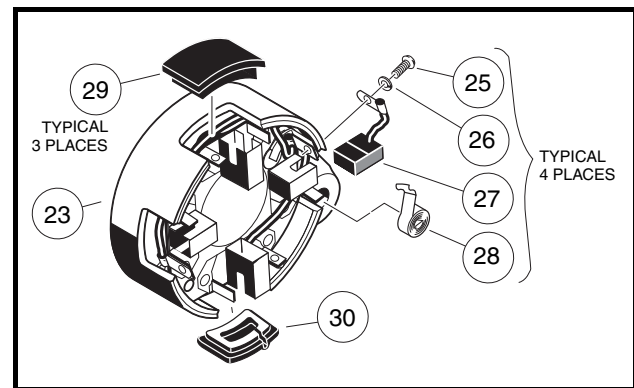
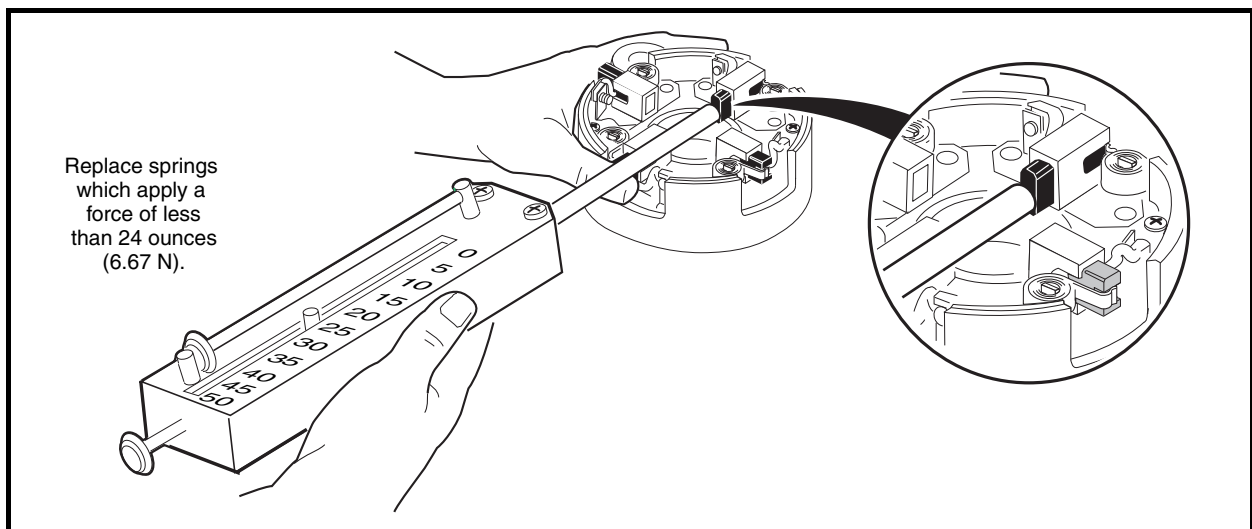

Figure 12-3 Brush Covers and Brushes
Figure 12-5 Brush Spring Tension Test
2. Remove brush covers (29 and 30), screws (25), lockwashers (26), brush springs (28) and brushes (27) (Figure 12-3, Page 12-2). See following NOTE.
2. Install the four brushes (27) into their holders and insert the four brush springs (28) (**Figure 12-3, Page 12-2**). Using a spring scale, test brush spring tension. If any spring has a tension less than 24 ounces (6.67 N), replace all four springs (**Figure 12-5, Page 12-3**). See following **CAUTION**.
1. Connect the brush wires to the holders using four lockwashers (26) and four screws (25). Make sure the crossover leads are also connected. Tighten the screws to 31 in-lb (3.5 N·m) (**Figure 12-3, Page 12-2**).
4. Push the brushes down into the holders. Place springs into the notches in the brushes. Install the brush cover (30) that has the drain hole in it next to the A2 terminal. Install the remaining three brush covers (29) onto the openings in the commutator end cover (23) (**Figure 12-3, Page 12-2**).
10. Push the brushes down into the holders. Place springs into the notches in the brushes. Install the brush cover (30) that has the drain hole in it next to the A2 terminal. Install the remaining three brush covers (29) onto the openings in the commutator end cover (23) (**Figure 12-3, Page 12-2**).